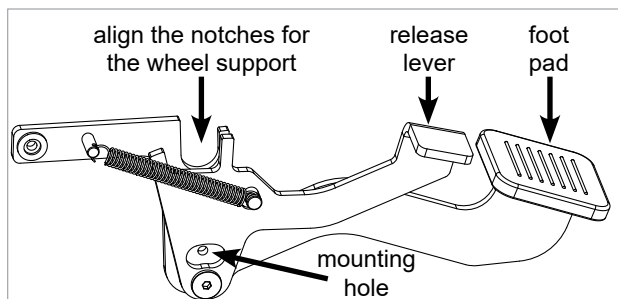
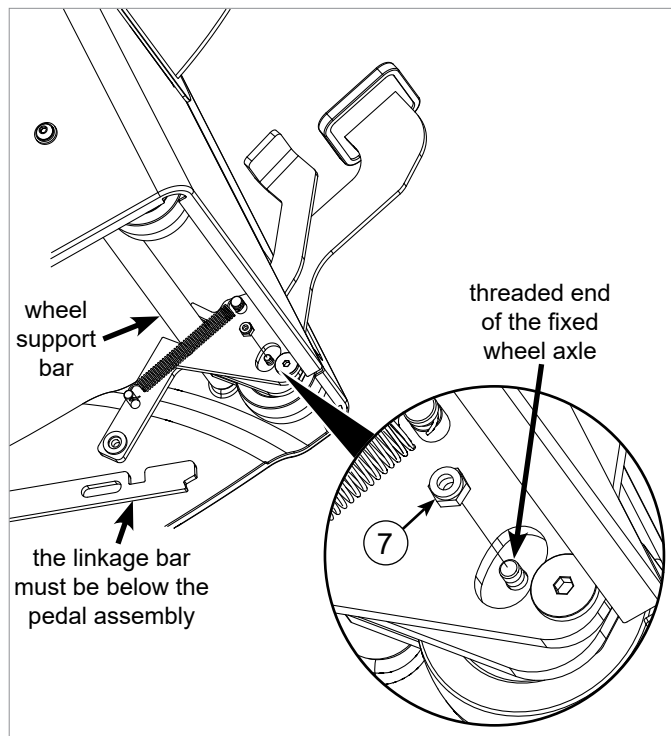

Fig. 34a
Fig. 34b
16. You must now position the pedal assembly so that it fits against the wheel support. The pedal assembly includes notches shaped to fit over the wheel support bar, and a mounting hole shaped to fit over the threaded end of the fixed wheel axle (see Fig. 34b). Squeeze the foot pad and the release lever together until the notches for the wheel support align as shown in Fig. 34a. With the slots aligned, position the pedal assembly so that the wheel support bar fits in the notches and so that the threaded end of the fixed wheel axle extends through the mounting hole in the pedal assembly. When positioning the pedal assembly make sure the linkage bar extending from the caster support is below the pedal assembly. Use an M6 lock nut from the hardware pack to secure the pedal assembly to the fixed wheel axle as shown in Fig. 34b. Fully tighten the nut using a 17 mm wrench and a 10 mm socket.